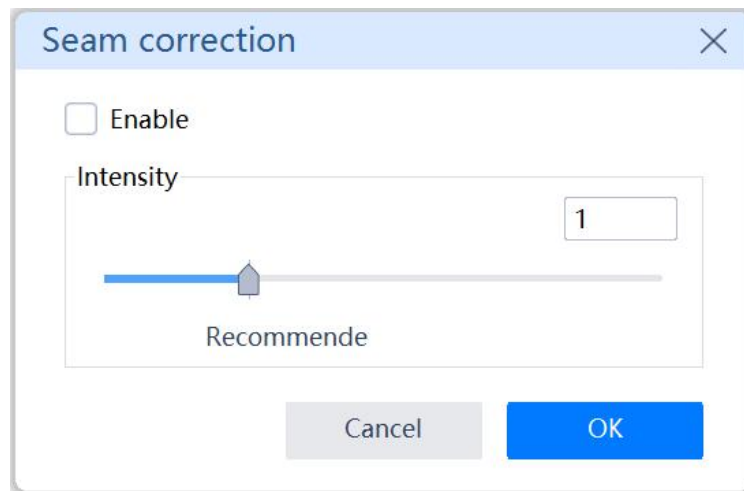

Fig.4-34 Seam correction settings
- 1) **Seam correction:** Click **Seam correction** in the **Project Settings** tab, and then select the **Enable** checkbox in the pop-up window to enable the seam correction function. See Figure 4-34.